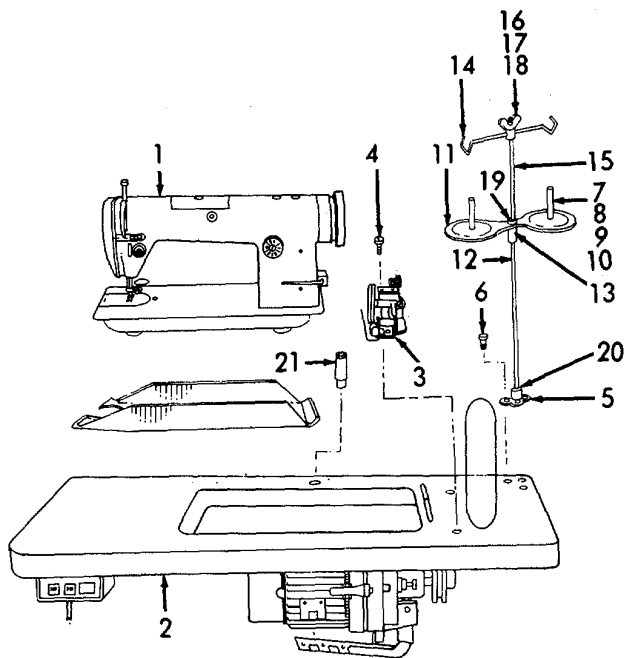

Figure 2-10. Clothing Sewing Machine Table, Installation.
(15) Refer to Figure 2-10 and install clothing sewing machine (1) to table (2) by meshing the hinge pins with the hinge plates on the table.
(16) Unstrap light assembly from motor and clamp to table top. Be sure the felt on the clamp is on the table top and the thumbscrew is on the bottom.